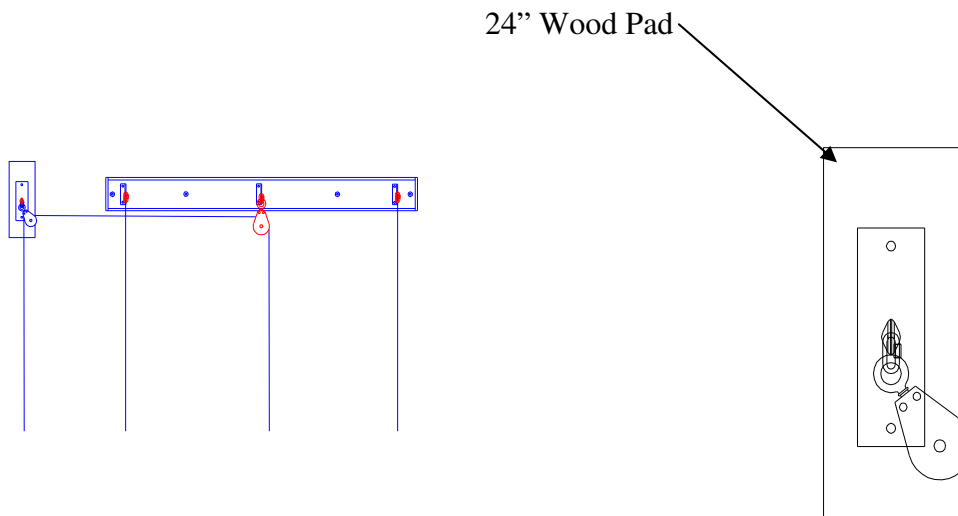

Figure 7 Example of second pulley location and attachments.
- 16) The second pulley should be installed to one side or the other of the unit, in line with the first pulley. Attach the provided bracket to the 24" wood pad and mount to the wall vertically (as shown in Figure 7). Utilize a 5/16" quick link to connect the pulley to the bracket.